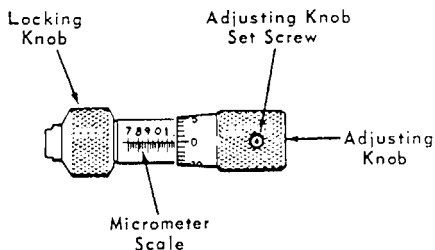

FIGURE 20
4. With the Quick-Setting Wrench in place on the Gage, loosen the Adjusting Knob Set Screw (see Figure 20) with a $1/16''$ hex wrench.